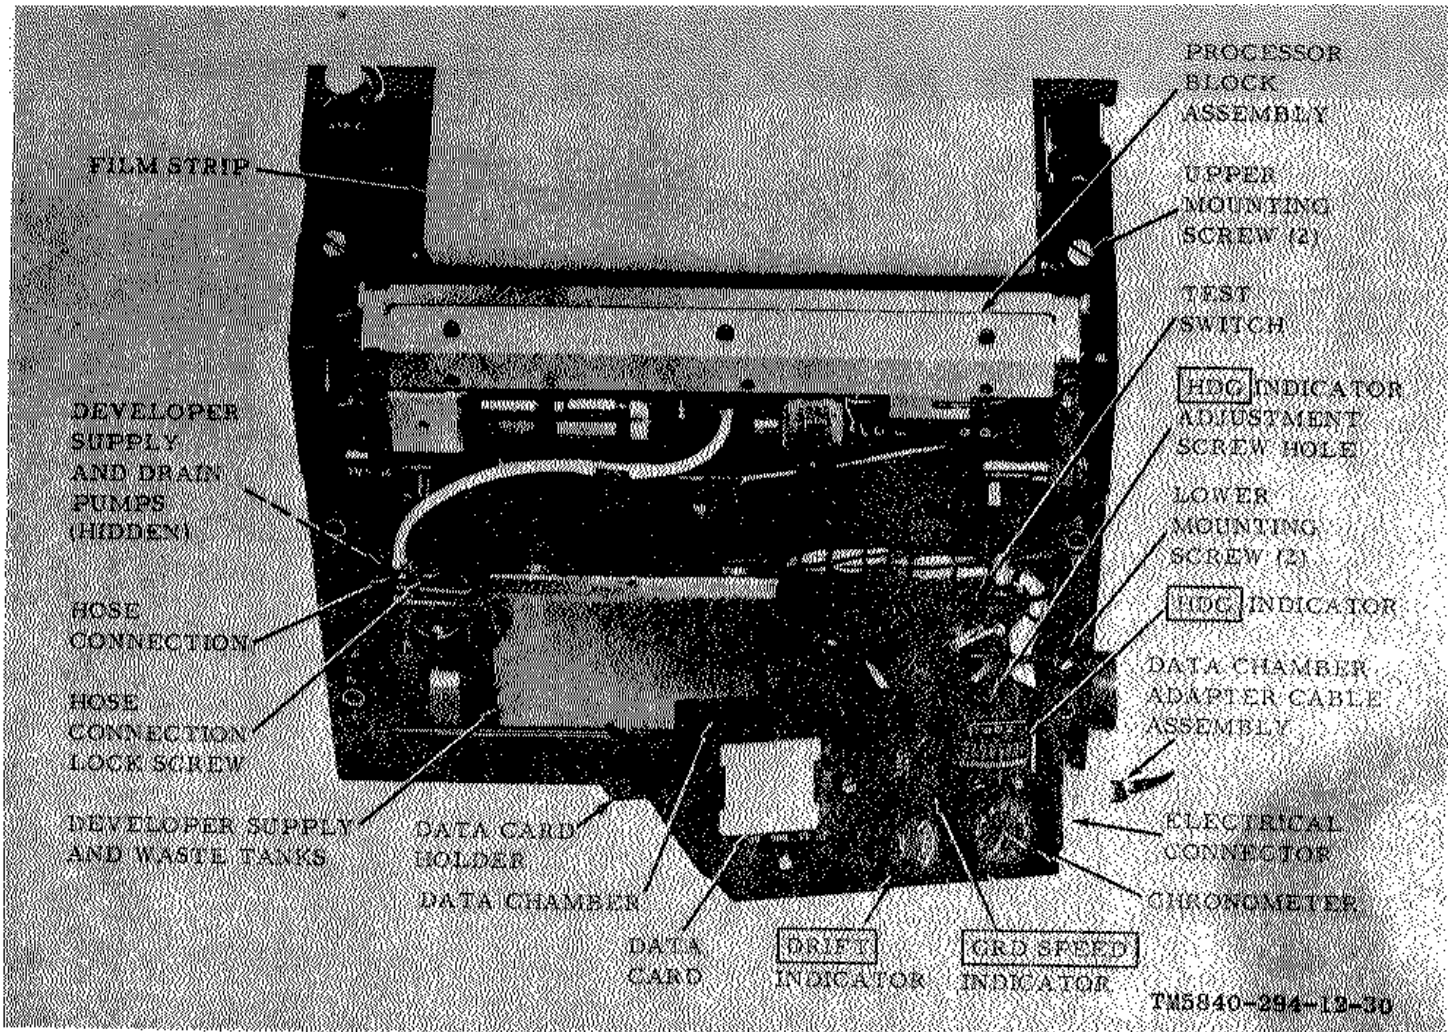

Figure 2-6. Recorder-Processor-Viewer, Radar Mapping RO-166B/UP, upper and lower front covers and data chamber removed.
- (6) Carefully press the processor-viewer to the target indicator. If any resistance is felt, make sure the two sets of connectors are mated properly before proceeding with the installation.
- (7) While supporting the processor-viewer, lift the upper front cover and screws (fig. 2-6) with a screwdriver.
- (8) Use a screwdriver to tighten the two lower mounting screws (fig. 2-6).
- (9) Replace the lower front cover and tighten the seven lower front cover fasteners by turning them clockwise with a screwdriver.
- (10) Fasten the upper front cover by turning the two upper front cover fasteners one-quarter turn clockwise.